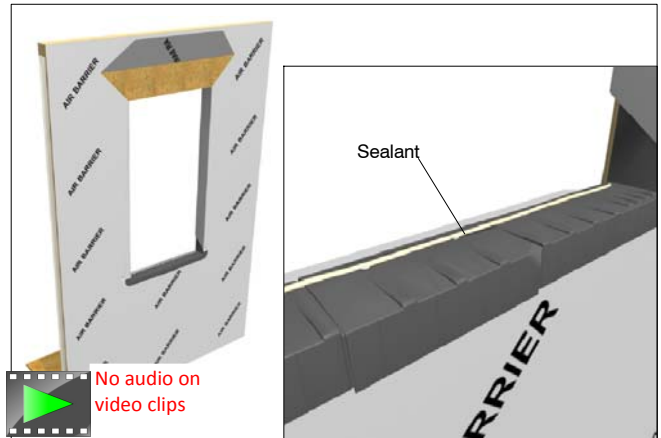

Figure 2: Prep the opening
3. Ensure that the sill plate has been leveled to within 1/16" (2) across the entire width and that the opening has been properly prepped. Apply a 3/16" (5) bead of sealant across the sill pan 3/4" (19) in from where the interior side of the sill of the unit makes contact with the sill pan system. See figure 2.